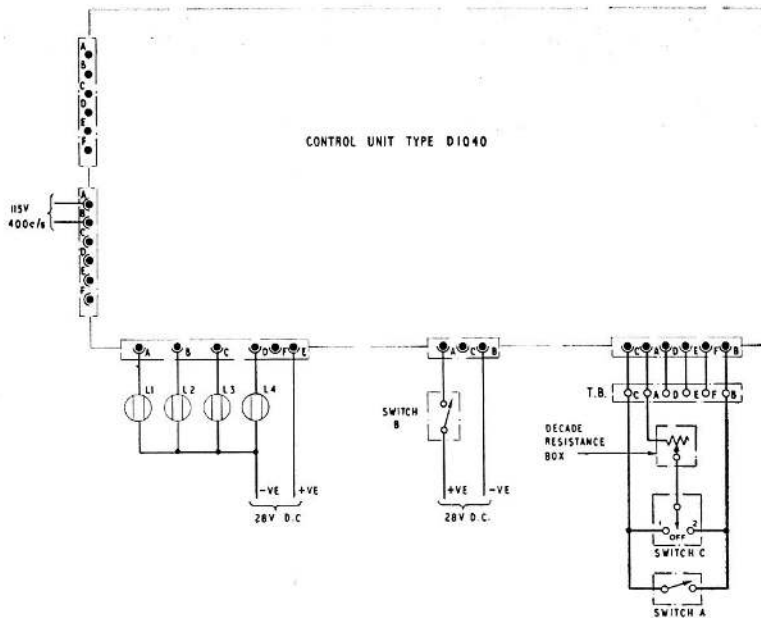

Fig. 1. Test circuit diagram
3. (1) Connect the relay box to a test circuit, as shown in fig. 1, using suitable 6-pole and 3-pole sockets and a 6-way terminal block. The socket connecting the 6-way terminal block and its associated circuit should be connected to the 6-pole plug PL1 on the top left-hand corner of the relay box.